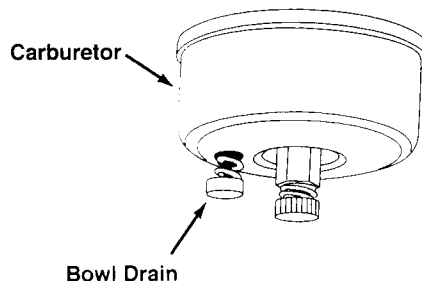

FIGURE 14
1. Locate the bowl drain below the carburetor. See figure 14.